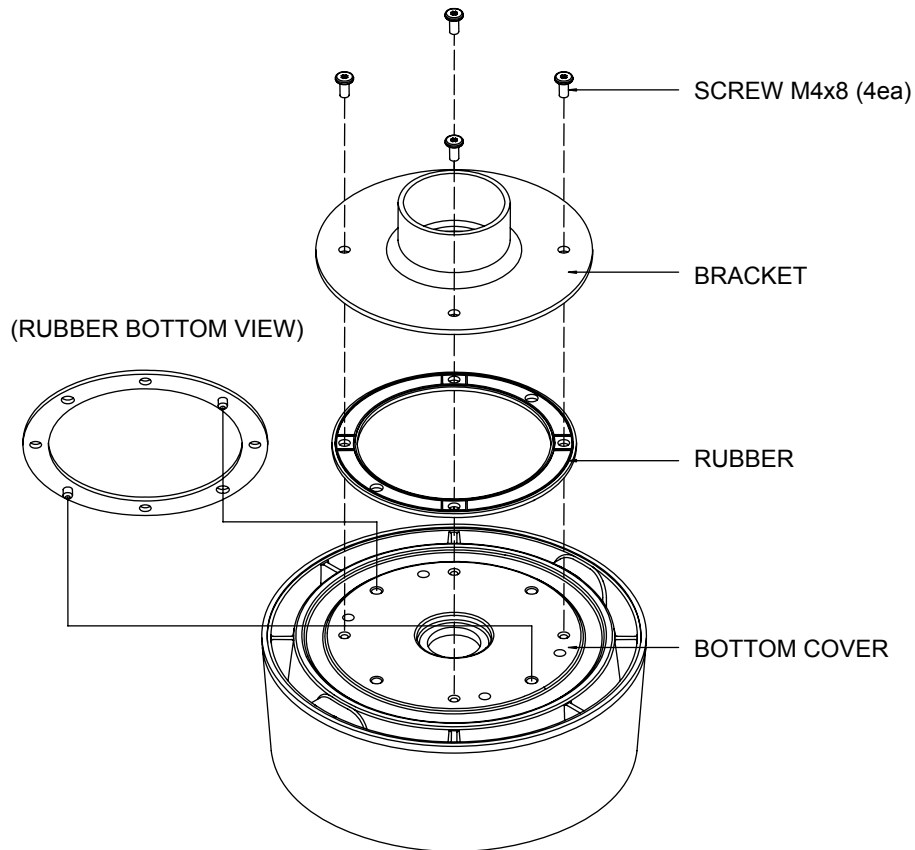

FIG.11
1. As above FIG.11, assemble rubber and bracket on the bottom of camera.